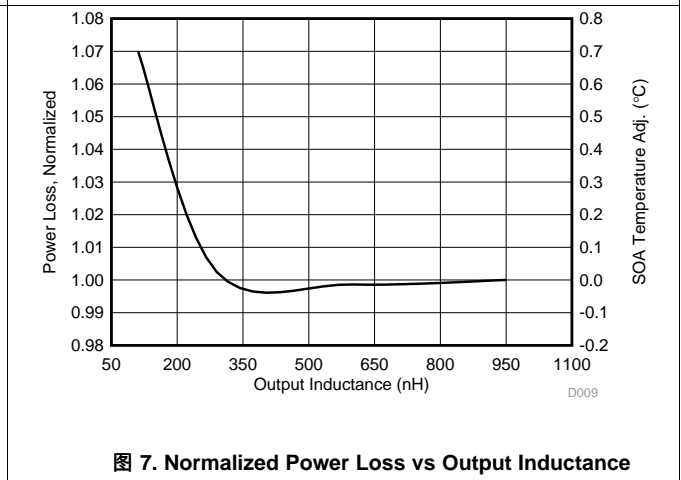

图 7. Normalized Power Loss vs Output Inductance
- Normalized power loss for output inductor  $\approx 1.0$  (图 7)
- SOA adjustment for output inductor  $\approx 0.02^\circ\text{C}$  (图 7)